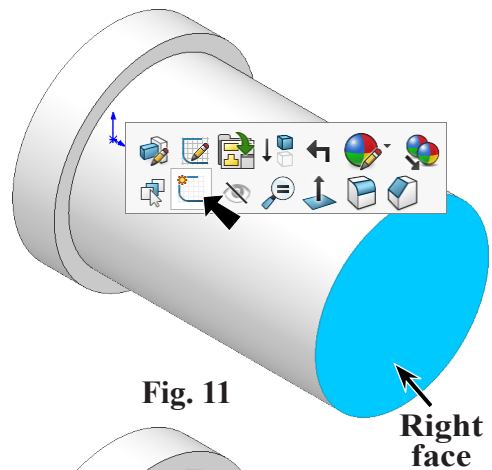

Fig. 11
Step 2. Click the **right side face** and click **Sketch**  on the context toolbar, Fig. 11.